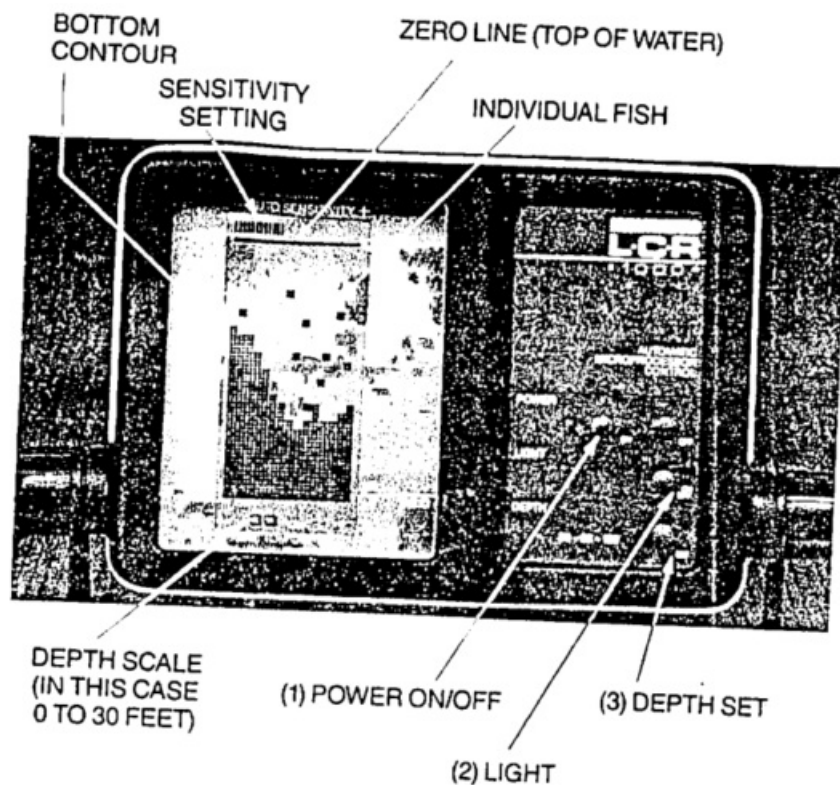

FIGURE 11
1. Power: (See Figure 11) The Power "On" switch activates the unit. Since the operation is automatic, the unit will find the bottom by varying the sensitivity and selecting the proper depth range for a satisfactory return. Also, the display below the bottom is blacked out to make the display easier to read. Surface clutter is automatically eliminated by the Sensitivity Time Control (STC). Electrical interference is screened out thanks to an automatic digital noise reject feature.
The uppermost readout of the display is the sensitivity bar (See Figure 11). You will notice this bar increasing or decreasing based upon the amount of sensitivity being used. It is possible to use this feature to interpret the bottom texture. A harder bottom will require less sensitivity thus a narrower series of sensitivity bars displayed. A softer bottom displays an increased number of bars due to the increased sensitivity needed to give an adequate return. To turn the unit off, simply depress the Power "Off" button.